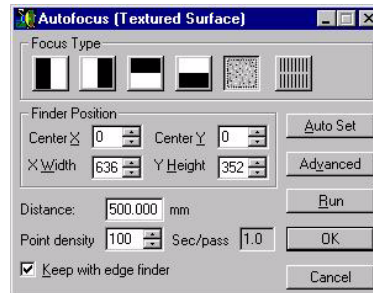

Figure 6-17 Autofocus Finder
6. Turn on the backlight (usually 1 for the Lo Mag lens). Use the Autofocus Finder (refer to Figure 6-17) in edge mode to focus the lens on the target.